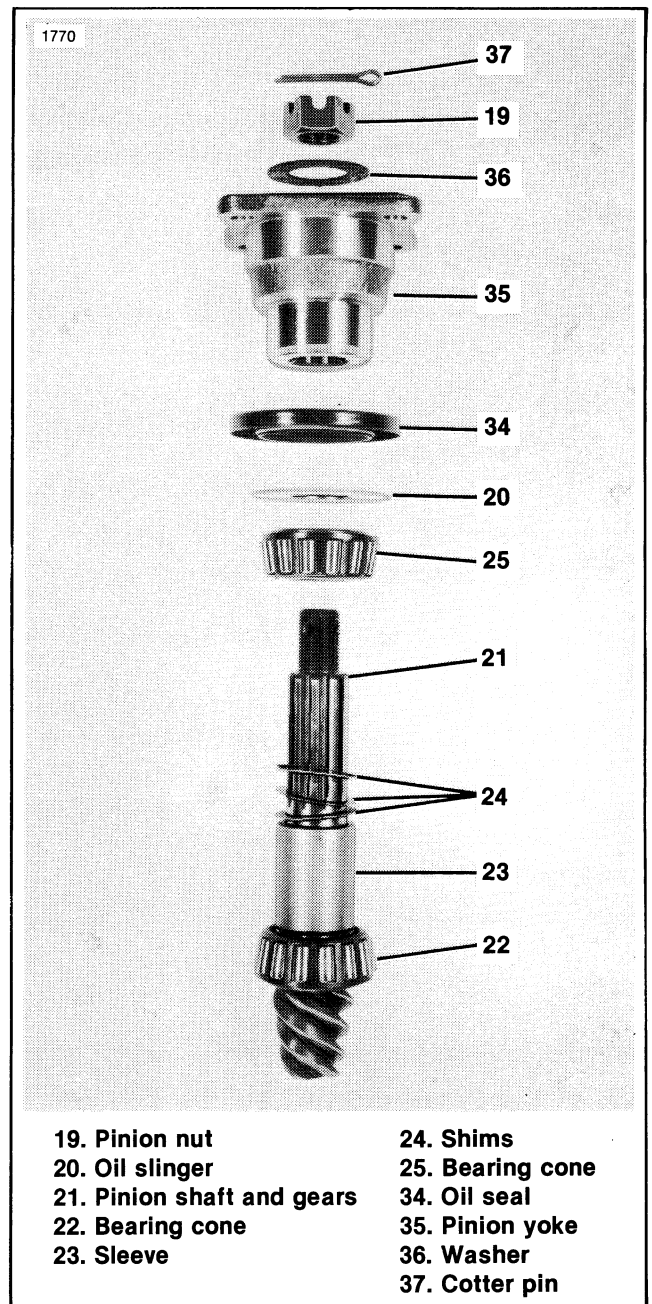

Figure 3-18. Pinion Assembly
20. See Figure 3-18. Remove oil slinger (20), pinion shaft (21), sleeve (23), shims (24) and bearing cones (22 and 25). Retain pinion gear backlash shims (24) for reassembly.
11. Install bearing (25), oil slinger (20), oil seal (34), pinion yoke (35), washer (36), and pinion nut (19) on pinion shaft (Figure 3-18). Tighten pinion nut to 50-75 ft-lbs (6.9-10.3 kgm) torque aligning cotter pin hole and nut. Use a 1 1/4 inch offset box wrench to hold the pinion nut and a spline socket to turn pinion shaft.